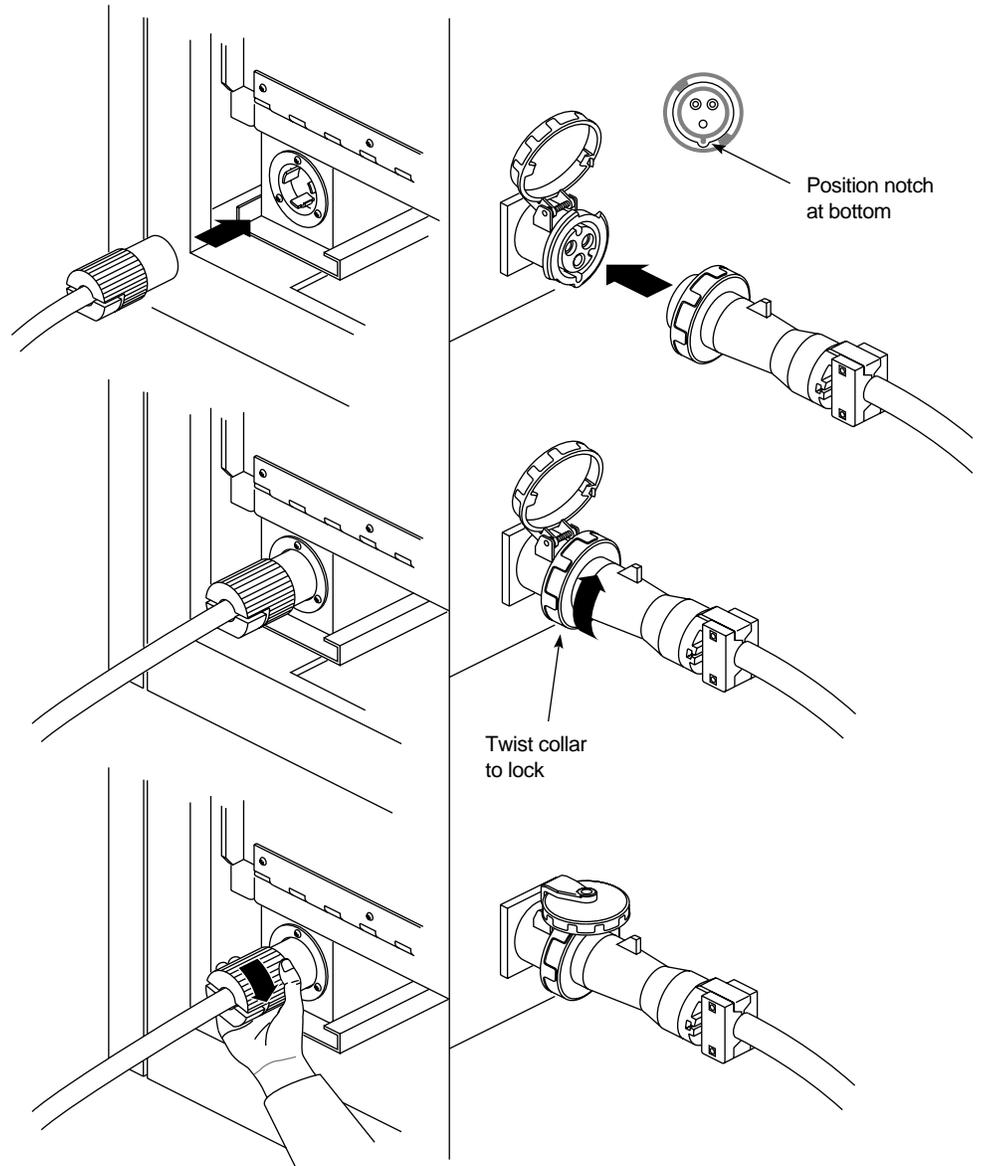

Figure 3-10 Connecting the System Power Cable
2. Insert the female end of the system power cable into the receptacle at the rear of the system chassis (see Figure 3-10). Secure the cable by turning the connector clockwise to engage the twist lock.
3. Connect the male end of the power cable to an AC power source using the appropriate receptacle, either a locking collar or a twist-lock connector (see Figure 3-10). Turn the locking collar on the keyed connector clockwise to engage the locating tabs on the AC outlet. Turn the twist-lock connector clockwise to secure it to the AC outlet.